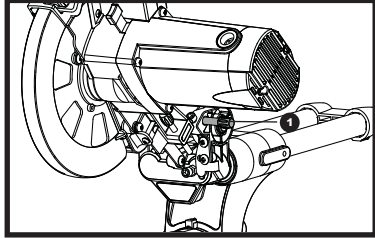

Fig 9
2. RELEASING THE SAW HEAD (see fig. 9)